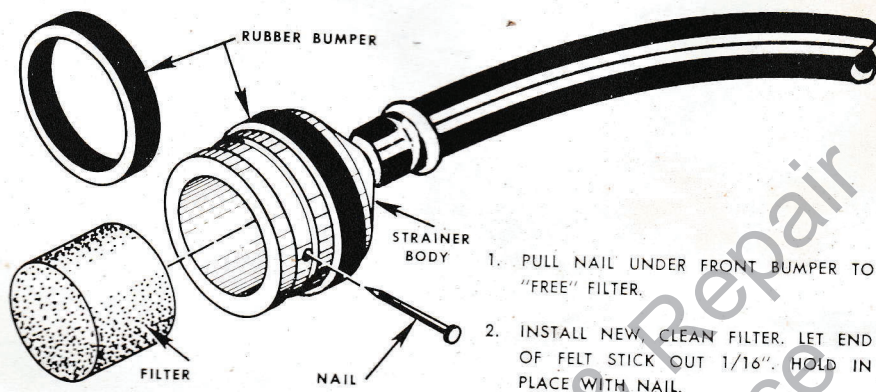

Figure 11 — Changing Fuel Filter
(1) NEVER RUN THIS CHAIN SAW WITHOUT A FUEL FILTER IN THE TANK. This filter is absolutely necessary to keep moisture and foreign matter from getting into the carburetor and engine. It works efficiently until its storage capacity is used up, whereupon the filter clogs and will not pass even fuel. When this happens, the engine will suddenly begin to run lean without any previous warning.
(2) To check condition of fuel filter, fish the pick-up assembly out of the fuel tank filler hole. Remove the filter from the strainer body (See Figure 11.) and compress filter between the fingers. If it feels hard to the touch, it is loaded up and should be changed.
(3) FLEXIBLE FUEL PICK-UP TUBE: Deterioration of this tube may cause *lean* operation whenever the saw is placed in a cutting position where the cracked or porous part of the tube will be above the fuel level. If the leak is below the fuel level, air cannot be sucked through the break into the system, and normal operation will result *unless* the weakened tube is collapsing under suction. In this case, the fuel-starved engine may either die out, in certain cutting positions, or may refuse to run.